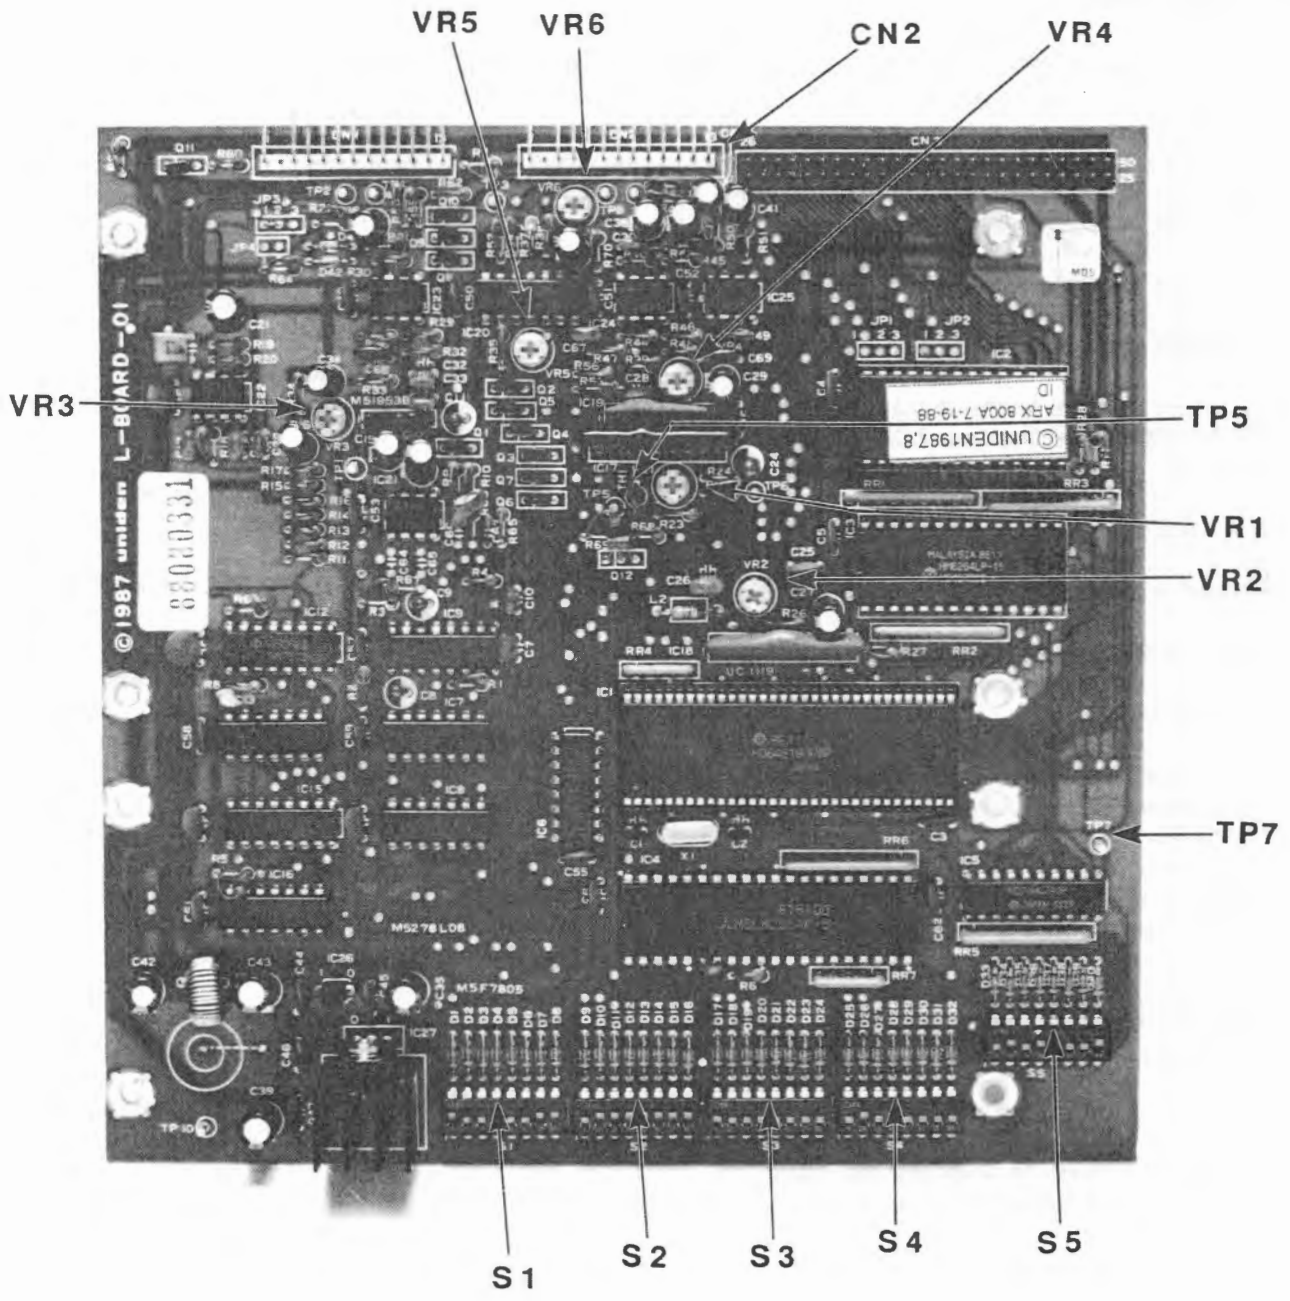

Figure 15. Trunking Logic Board Alignment Points
2. Set DIP Switches S1 through S5 (see figure 15) using the procedure described in "Setting the DIP Switches".